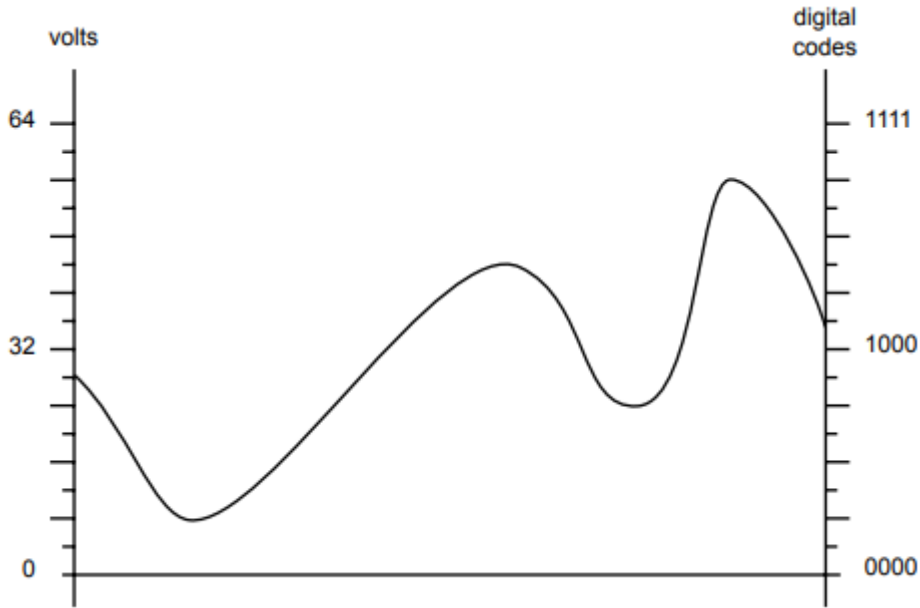

Figure 22
Figure 22 shows a waveform that is being digitalised by an ADC.
c) How many times is the digital code 1010 produced for the waveform in Figure 22?